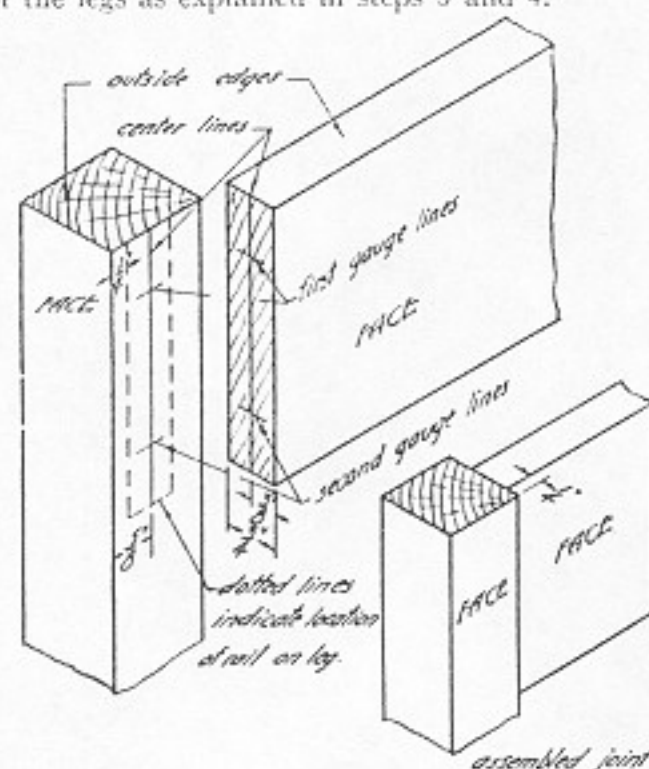

Fig. 220. Dowel joint between table leg and rail.
6. In cases where the members of the frame do not come flush, such as in a plain table, the center lines are gauged with different settings of the marking gauge. The ends of the rails or cross members are gauged along the center as explained in step 2. If these are $\frac{3}{4}$ in. thick, the marking gauge is set to $\frac{3}{8}$ in. (Fig. 220).